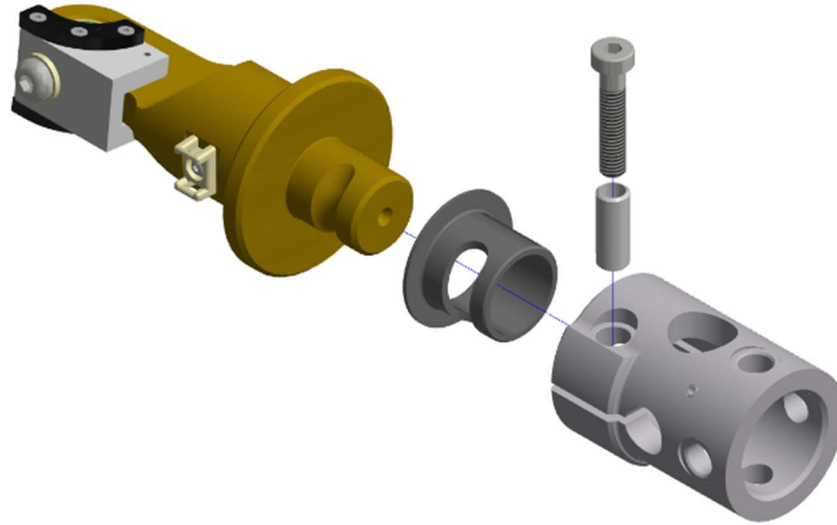

Figure 11-33. Upper Arm Load Cell Adaptor (484-6112), Distal Upper Arm Tube Assembly (474-6115-1,2), and Arm Rotation Bushing (474-6121)
- 11.3.9 Attach the Arm Rotation Bushing (474-6121) to the Distal Upper Arm Tube Assembly (474-6115-1,2). Attach the Upper Arm Load Cell Adaptor (484-6112) to the Distal Upper Arm Tube Assembly (474-6115-1,2) using one M6 X 1 X 30 LG. LHCS (Figure 11-33).